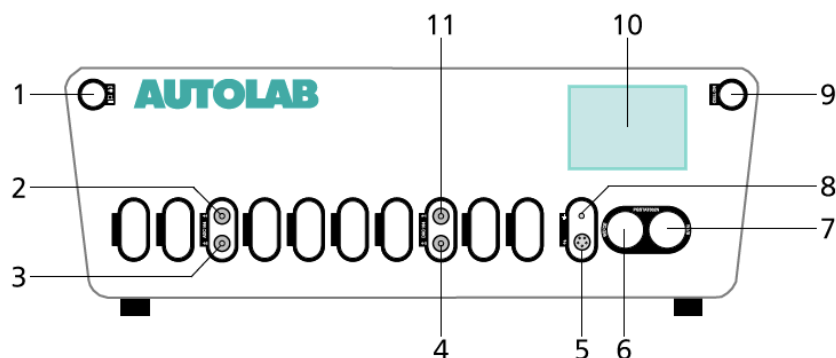
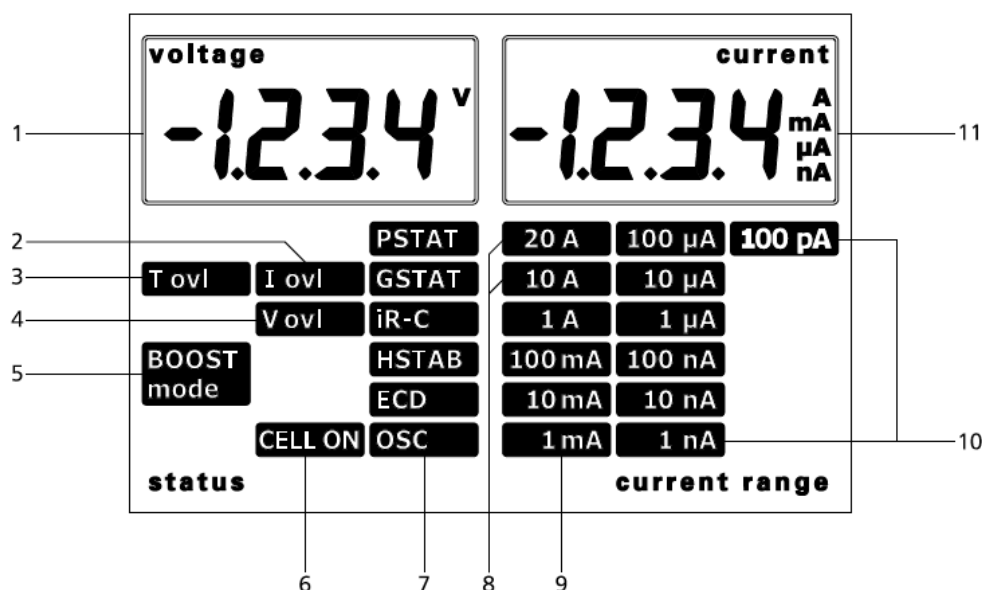

Figure 871 Overview of the front panel of the N Series Autolab
Figure 872 Overview of the display of the Autolab
The front panel of the N Series Autolab provides a number of connections, controls and indicators (see *Figure 871*, page 691).
The display (item 10 in *Figure 871*) is used to provide information about the Autolab to the user. *Figure 872* shows a detail of this display.